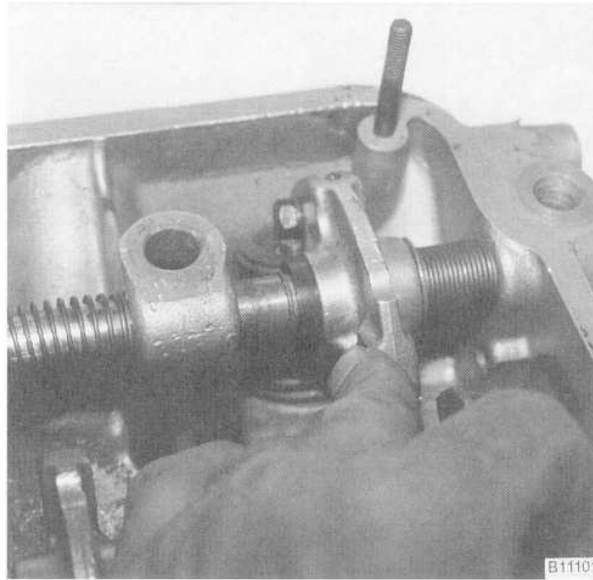

Fig. 23. Remove rocker arm retaining ring by sliding rocker arm and thrust ring to one side. Pick off retaining ring using a small screwdriver.
8. Remove the rocker arm retainers by sliding the rocker arms and thrust rings to the side and prying off the thin retaining rings. See Fig. 23.